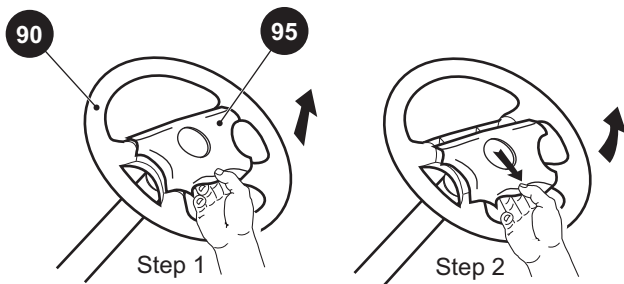

Figure 20 Steering wheel cover Removal
1. From the front side of the steering wheel (90), pull straight up on the bottom of the steering wheel cover (95) to release the two bottom retaining tabs.
2. Using a thumb for leverage as shown, reach from behind the steering wheel with fingertips to first pull down, and then push up to release the two top steering wheel cover retaining tabs (Ref. Figure 20).